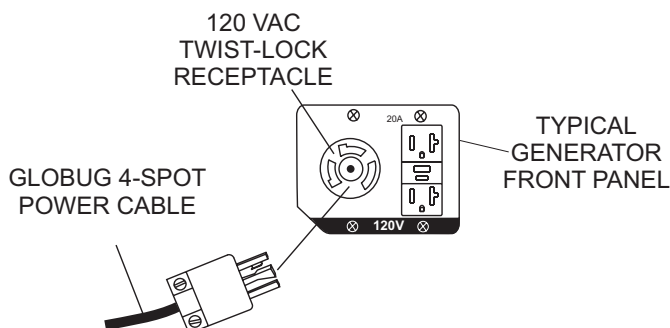

Figure 16. 120 VAC Receptacle
2. The GloBug has a power requirement of 120 VAC, 60 Hz @ 18 amps. Connect the AC power cord to the 120 VAC twist-lock receptacle (Figure 16) on the supplied generator.